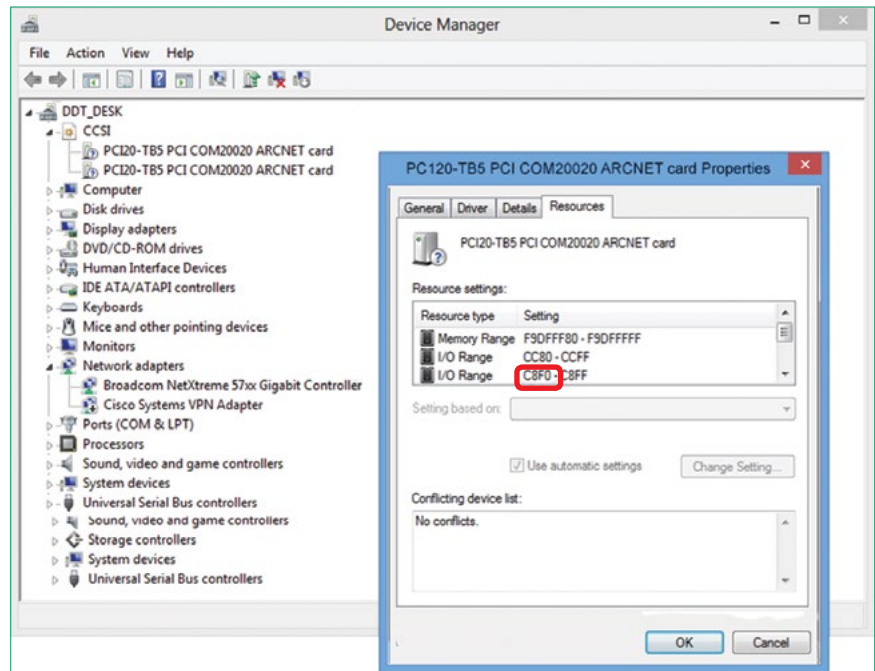

Figure 51. *Windows Device Manager settings*
- e. Locate **CCSI** and double click (see Figure 51).